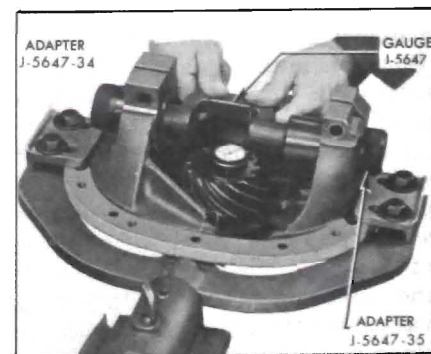

Figure 6-29—Checking Pinion Setting
8. Drive a wedge into each pedestal split and spread them just enough so that Adapters J-5647-34 and -35 will slip in. Then place the indicator gauge in the carrier as follows: (see Figure 6-29).